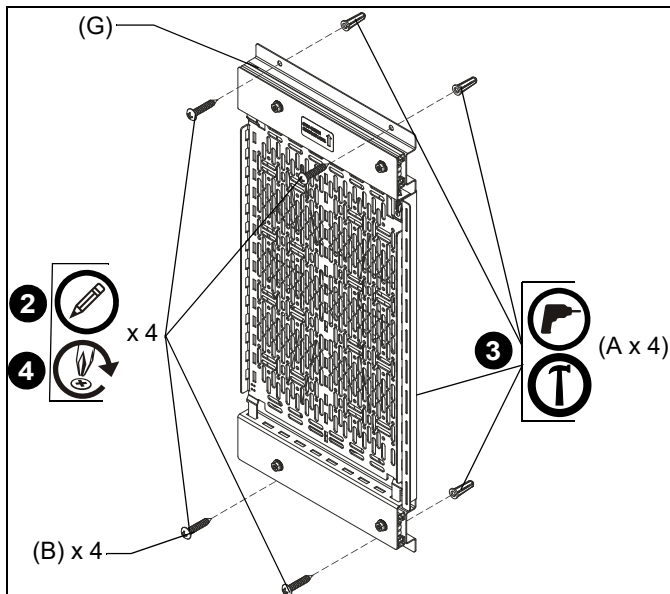

Figure 2
2. Using the CMSSP15X10 (G) as a template, mark the locations of four mounting holes. (See Figure 2)
3. Drill four 1/4" pilot holes and insert drywall anchors (A) at markings. (See Figure 2)
4. Fasten storage panel (G) to wall using four #10 x 1" Phillips pan wood screws (B). (See Figure 2)